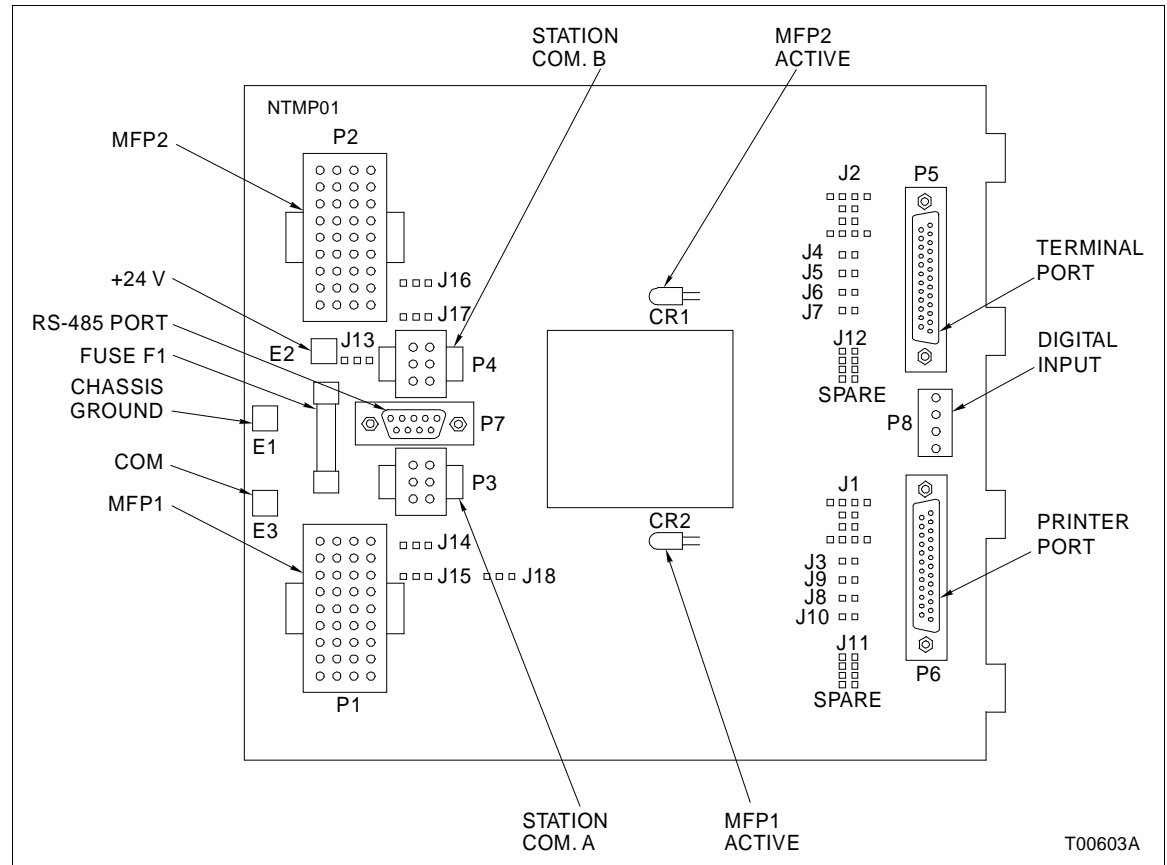

Figure 2-1. TMP Termination Unit Layout
rent. Figure 2-1 shows the termination unit layout. Verify that the fuse is installed in fuse holder F1.
Figure 2-1 shows the jumper locations. There are 18 jumpers.
3. Connect the chassis ground by installing a number 10 self-tapping screw and external star washer in the location (E1) shown in Figure 2-1.
2. Insert the other end of the cable into P1 or P2 of the TMP termination unit. See Figure 2-1 for the location of P1 and P2 on the TMP circuit board.
There is one faston (E2) that connects to +24 VDC and one faston (E3) that connects to I/O common. Figure 2-1 shows their location on the TMP circuit board.